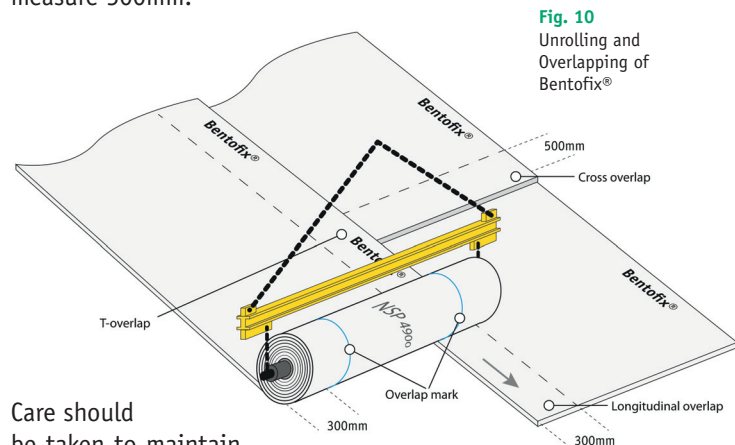

Fig. 10
17.5 T-shaped seams (fig. 10) should be reduced to a minimum.
17.8 Unless otherwise specified, the minimum dimension of the longitudinal overlap should be 300mm. The edge overlap lines of Bentofix® allow the line-up during the unrolling process (fig. 10). End-of-roll overlapped seams should be constructed similarly but the minimum overlap should measure 500mm.